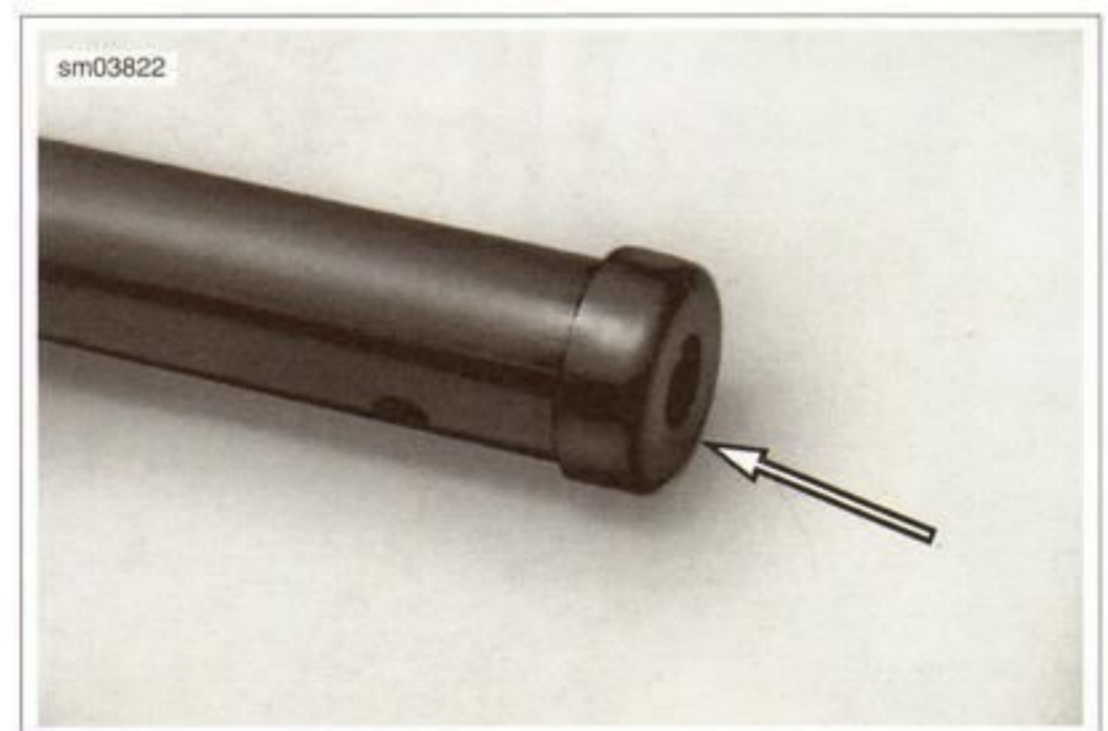

Figure 2-92. Centering Plate on Bottom of Damper Rod
6. Install the oil seal stopper ring (20) and a **new** dust seal (21).
7. See Figure 2-92. Make sure the centering plate is on the damper rod assembly and install into the slider tube. Push to the bottom of the slider.